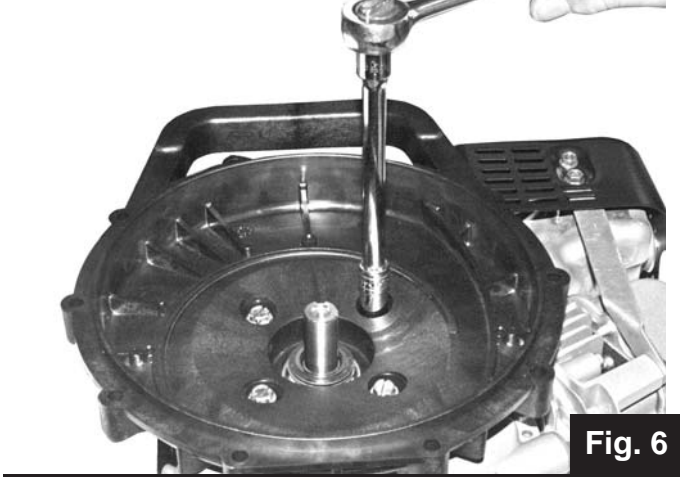

Fig. 6
4) Install an o-ring (Ref. #8) onto each 1 1/4"/32mm long screw (Ref. #9) until the o-ring is seated against the underside of the screw head. If your screw tips are not pre-coated with a locking adhesive, apply one large drop of Loctite #242 (or equivalent) to the tips of the screw threads. Drop the screws into the four holes of the bracket. With a large flat head, wide blade screwdriver or 7/16" socket, tighten the four screws. We suggest: starting one screw half way, tighten screw opposite started screw. Return to first screw and tighten. Tighten remaining two screws (Fig. 6).
2. For pedestals with carbon steel shafts (58-2053 01), install the slinger (Ref. #47) as per procedure 3/ Fig. 6 on page 3. Do not install a slinger on pedestal assemblies which have stainless steel or titanium shaft sleeves.